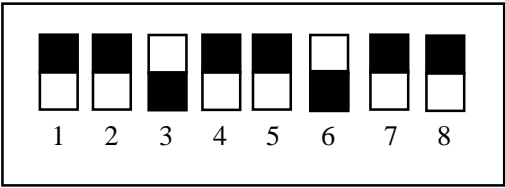

Figure 8.2 DIP Switch
① Set SW3,6 as shown in Figure 8.2 before turning the equipment power on.